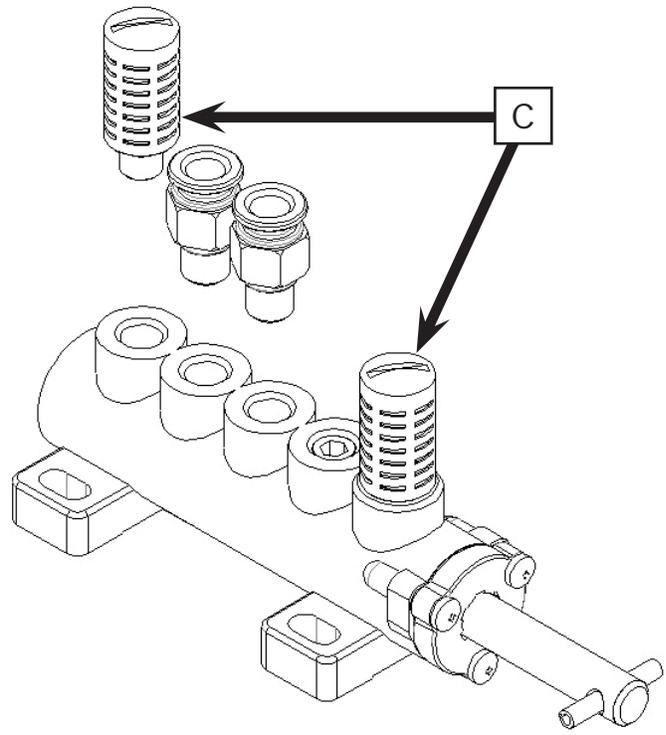

Fig. 19
- All air silencers should be removed and cleaned properly by a jet of compressed air every three months (ref. C/fig.19), or replace if it is damaged.